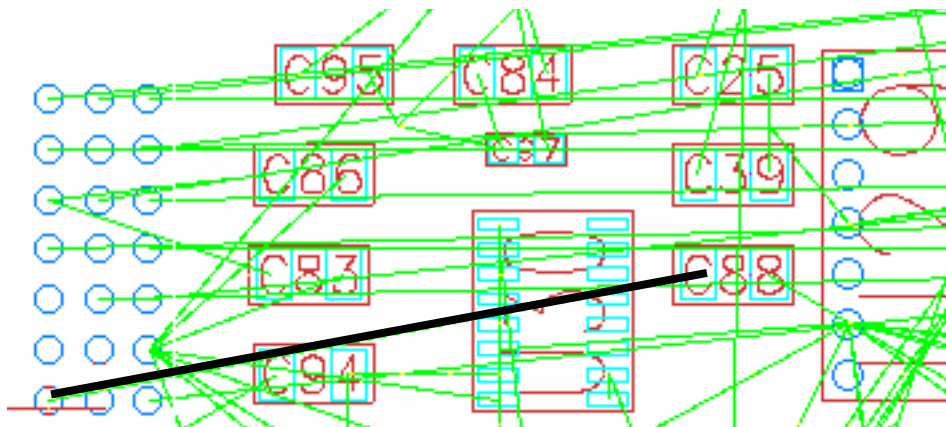

Figure 1-35. A VCC Net
2. Click the Select mouse button on the guide connecting component C88 to the connector, as shown in Figure 1-35.